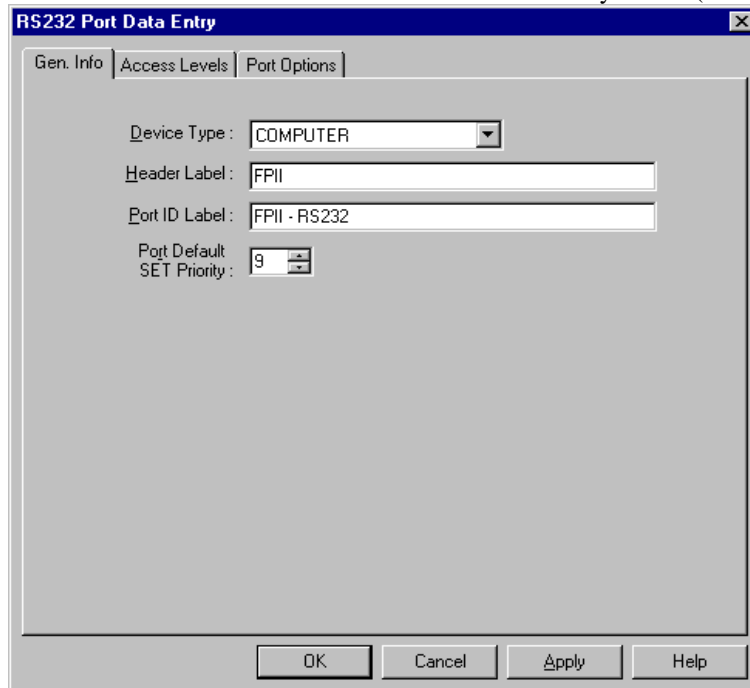

Figure 20. RS232 Port Data Entry Screen
- Click on the Port Data button to access the RS232 Port Data Entry screen (see Figure 20).